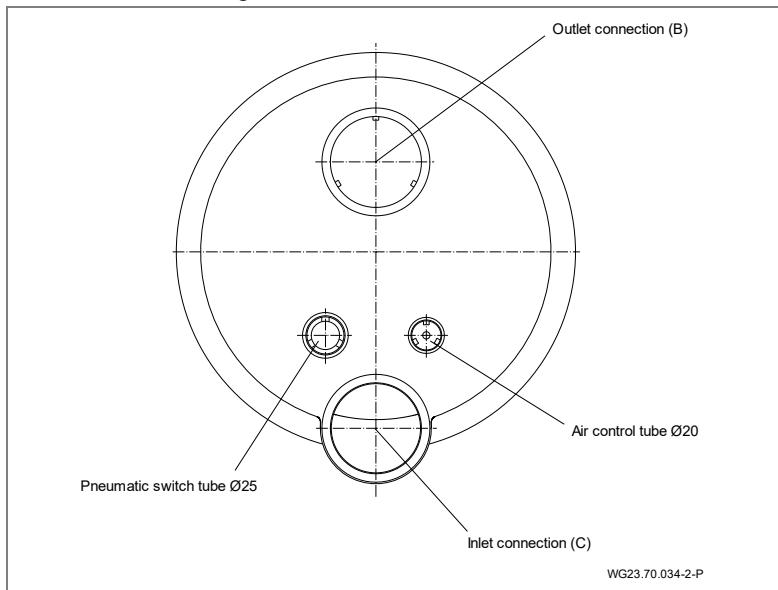
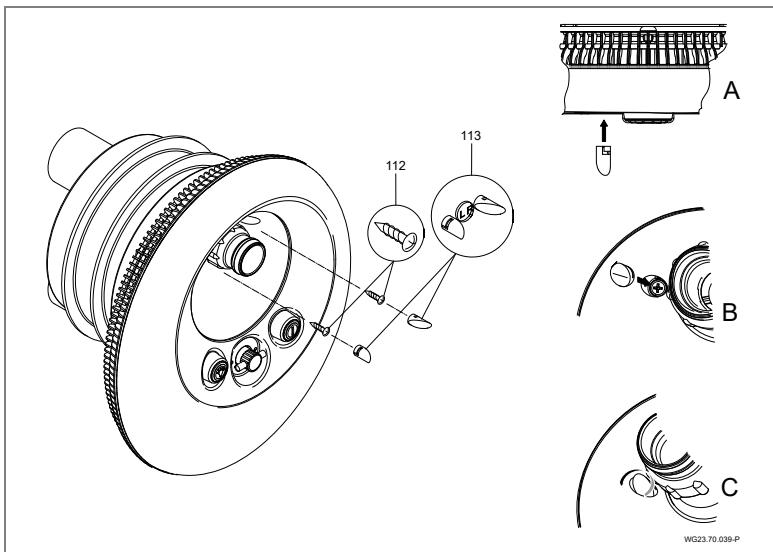

Fig. 16
Fig. 21
1. Glue in the cable protection hose and the hose for air supply. (Fig. 16)
10. Attach the decorative caps in the light cover as in Fig. 16. Use the correct decorative cap for left (L) and right (R). (Fig. 21)
1. Loosen cable screw (20).
4. Unlock cover (113). See "Fig. 21" on page 34.
5. Loosen screws (112) and remove lighting cover (110).
6. Loosen screws (49) and remove stainless steel cover (93).
7. Loosen screws (95) and remove suction housing (107).
8. Loosen screws (52) and remove support ring (28) and support ring seal (27).